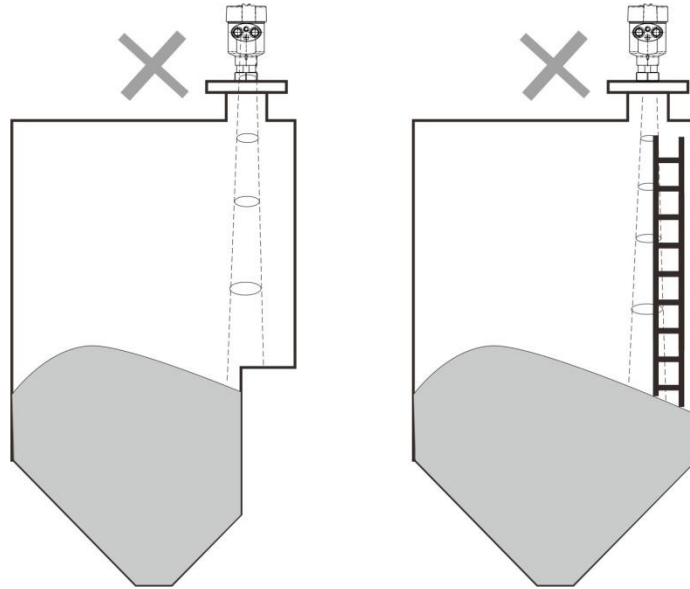

Fig 4-1 Example for avoiding false echo
- Keep the antenna beam free of any interference such as ladders, pipes, steps, as shown in Fig 4-1